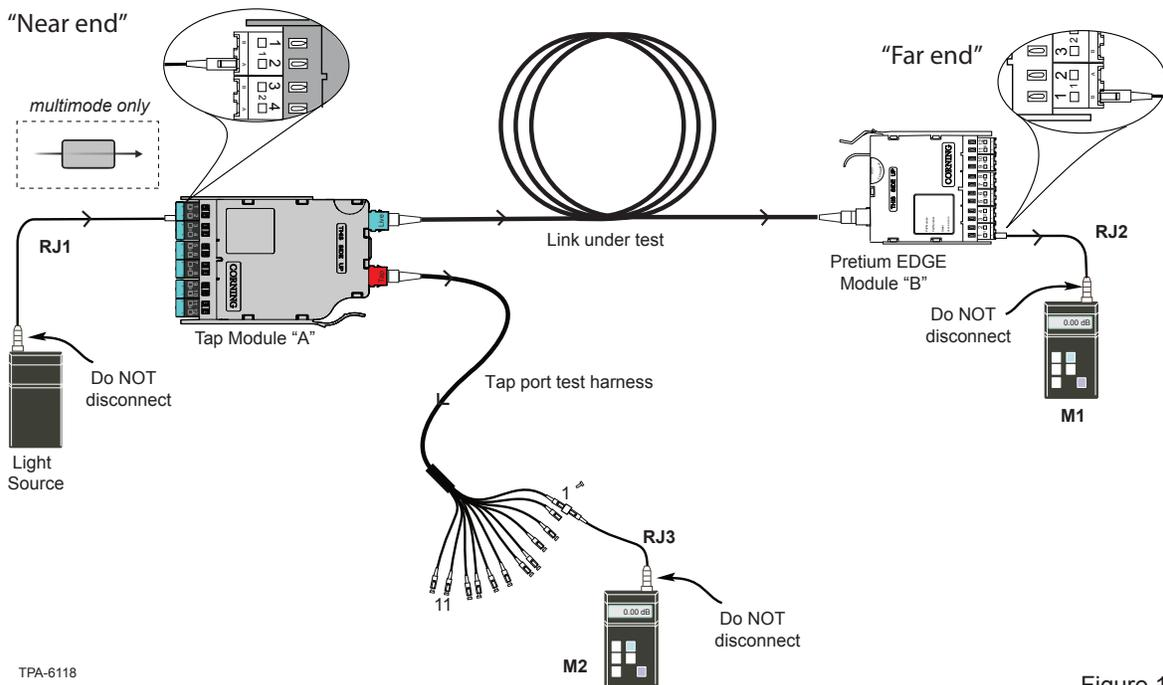

Figure 11
8.3 Referencing is now complete. Move the **Light Source** and **RJ1** to the front of the Tap module; move **M2**, **RJ3**, and the **LC adapter** to the end of the Tap harness; and move **M1** and **RJ2** to the EDGE™ modules at the far end of the system (See Figure 11).
9.1 Table 2 provides a complete guide to the testing sequence for testing with the light source at the Tap module “A” (“Near end”) and a meter at Module “B”, or the “Far end” of the system shown in Figure 11.
9.2 To begin testing a Tap module (Figure 11):
- Step 2:** Install **RJ2’s** LC connector into the number 1 port of the EDGE module (Module “B” in Figure 11).